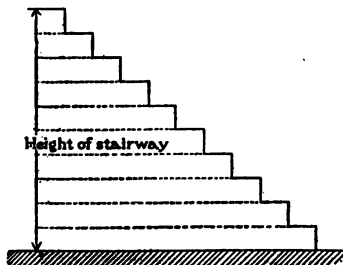

FIG. 32
2. Measure the vertical distance (Fig. 32) from the bottom to the top of a stairway. Record in feet and tenths of feet.